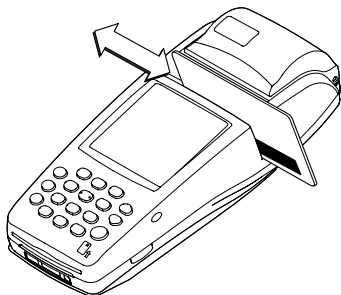

Figure A-1 Magnetic Card Reader
1. Verify that the card has been swiped with its magnetic stripe at the bottom and facing the user. See **Figure A-1 “Magnetic Card Reader”** on page 42.